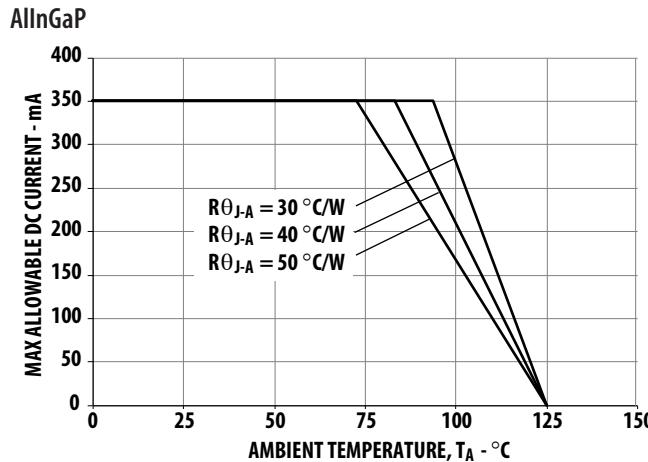
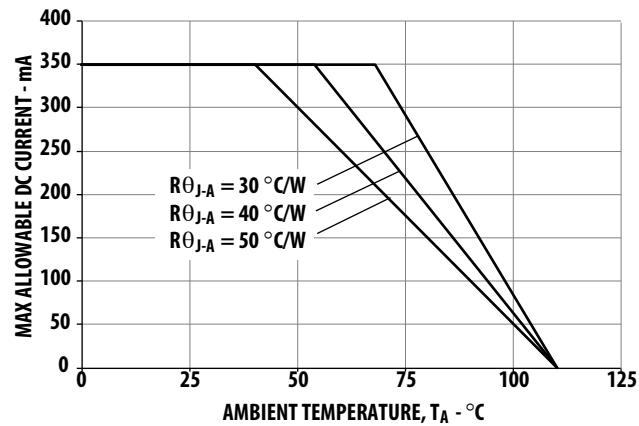

Figure 5. Maximum forward current vs. ambient temperature for AllInGaP
Figure 13. Maximum Forward Current vs. Ambient Temperature for InGaN
1. DC forward current – derate linearly based on Figure 5 for AllInGaP and Figure 13 for InGaN.